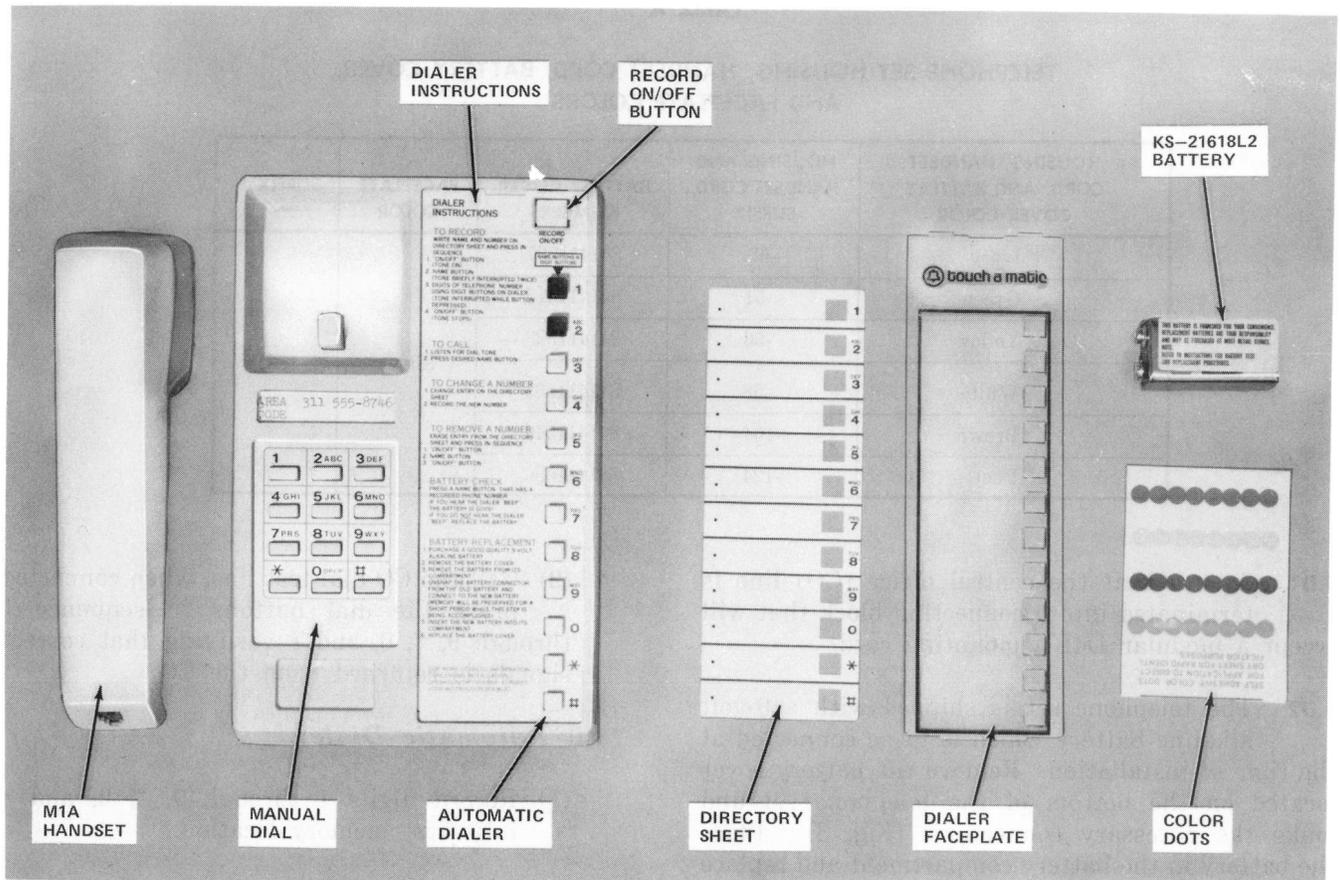

Fig. 2—5001T01A Telephone Set With Handset, Dialer Faceplate, Directory Sheet, and Battery, Removed
- (1) Remove the dialer faceplate by inserting finger nail into slot at top of faceplate, pull down slightly and lift out.
- (2) Remove the directory sheet and write or type the desired name(s) and telephone number(s).
- (3) Momentarily depress the RECORD ON/OFF button (Fig. 2). (A constant tone will be heard.)
- (4) Momentarily depress the memory button adjacent to the desired name listed on the directory sheet. (A double interrupt of the tone will be heard.)
- (5) Manually dial the desired telephone number using the digit designations to the right of the memory buttons on the dialer. (The tone will interrupt momentarily as each digit is recorded.) The manual dial key pad **cannot** be used to record a number into memory. A total of 16-digits can be recorded. When the 16th digit is recorded the dialer will beep three (3) times and automatically end the recording procedure. If the dialer is inadvertently left in the record mode it will time out after 1-1/2 minutes, give three (3) beeps, and automatically reset.
- (6) Momentarily depress the RECORD ON/OFF BUTTON. (The tone will cease and the dialer will be ready either for automatic dialing or to record another telephone number into memory. Repeat Steps 3 through 6.)
- (7) Replace the faceplate after all numbers have been recorded.